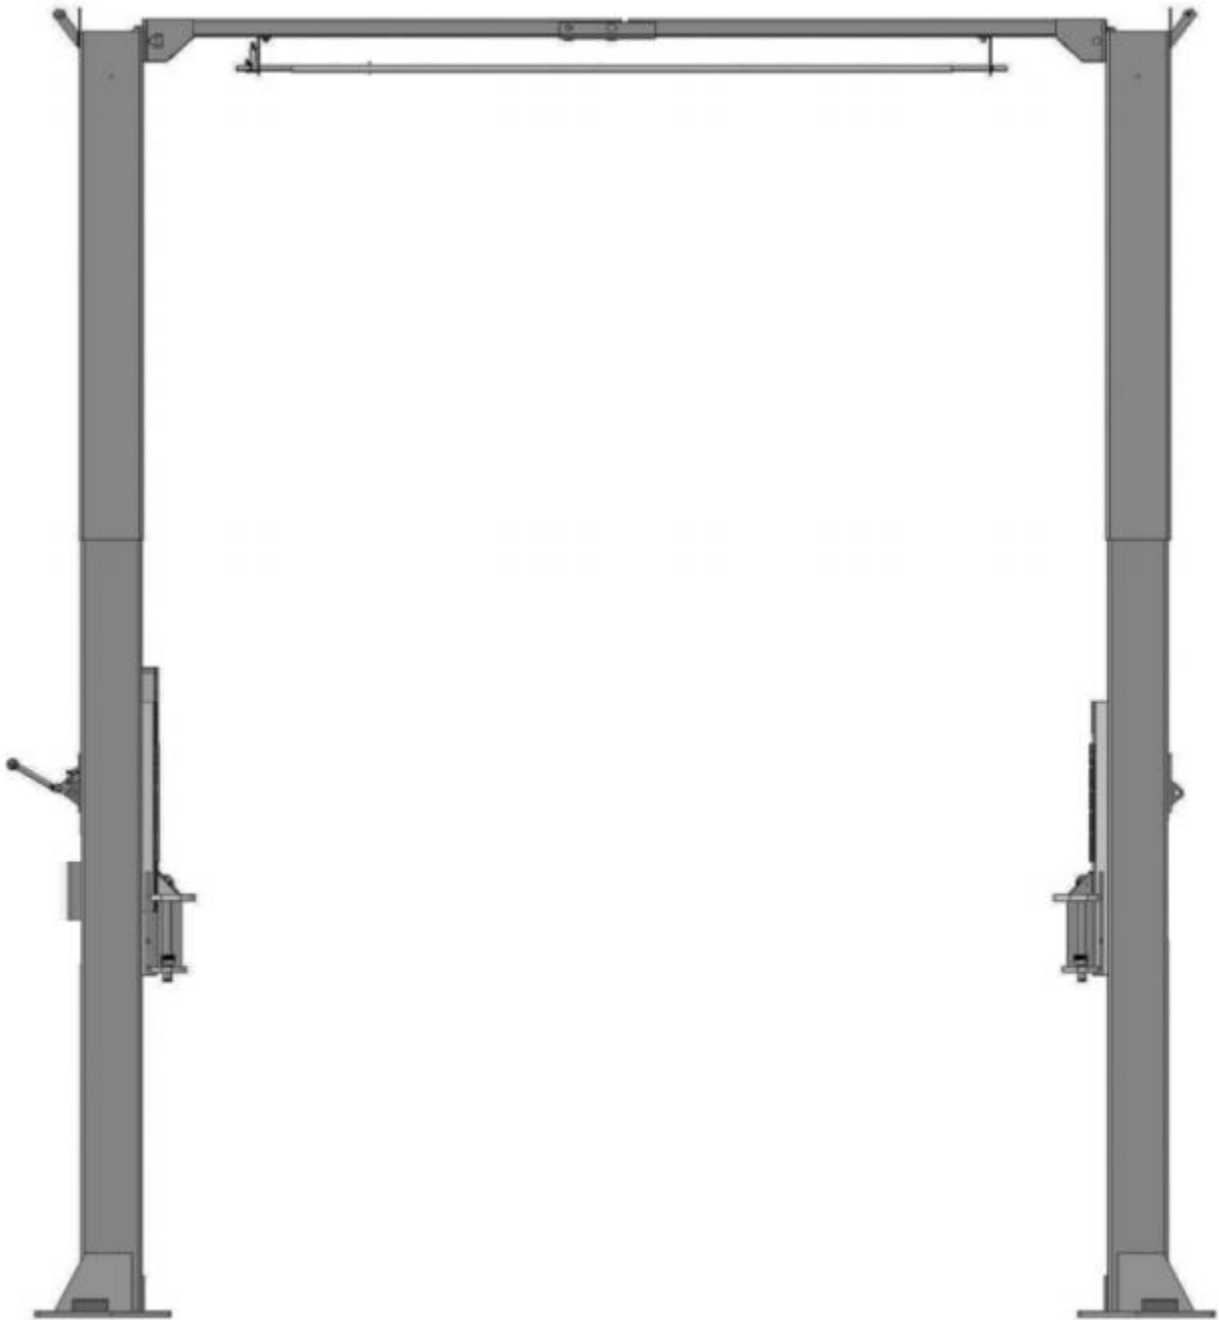

Fig. 28
K. Lift the carriages up by hand and make them be locked at the same level (**See Fig. 28**).